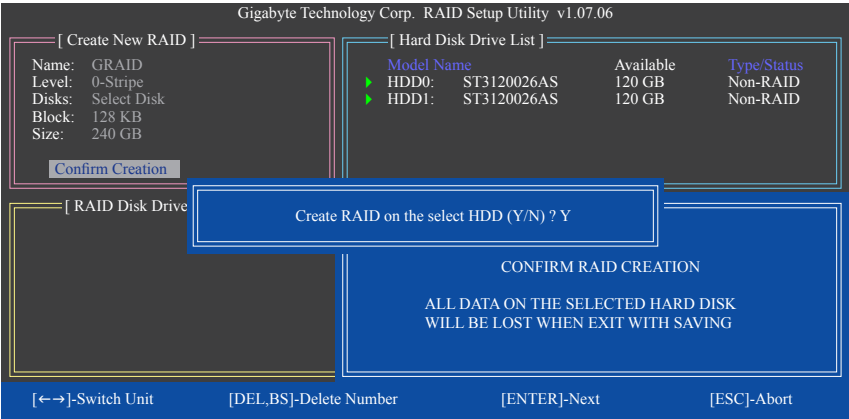

Figure 7
6. **Confirm Creation:** After all of the items above are configured, the selection bar automatically jumps to the **Confirm Creation** item. Press <Enter>. When prompted to confirm your selection (Figure 7), press <Y> to confirm or <N> to abort.